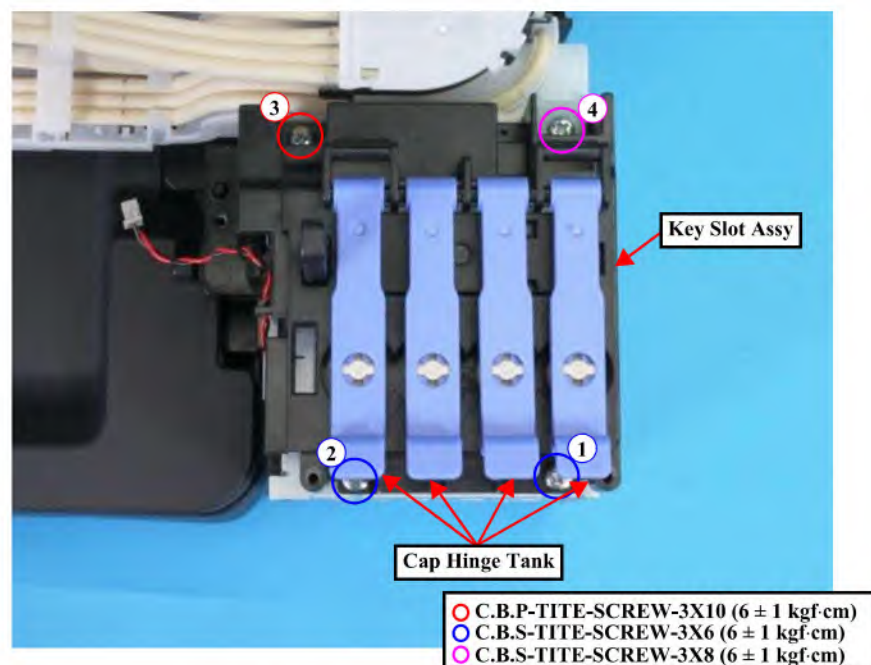

Figure 3-43. Removing the Key Slot Assy
- To prevent ink leakage, replace the Cap Tank from the Cap Hinge Tank on the Key Slot Assy (Figure 3-43) to the ink supply hole of the Ink Tank.
- When attaching the Key Slot Assy, screw in the order shown in Figure 3-43.